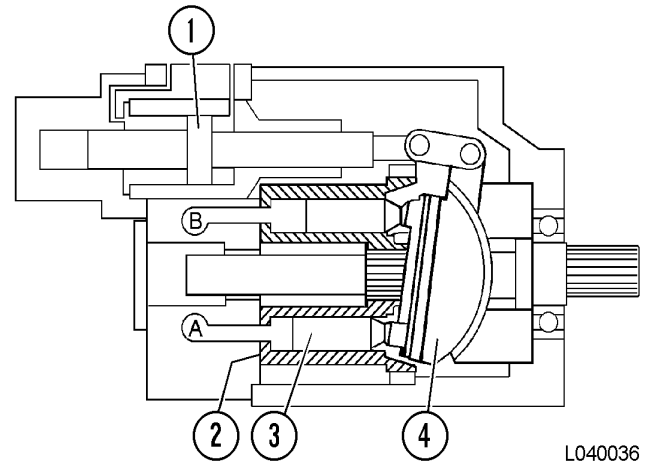

FIGURE 10-15. HALF PUMP VOLUME
The position of control piston (1, Figure 10-15) is near the center of its travel. Swashblock (4) is not angled as steeply as before. Therefore, the pistons have a shorter stroke. As the piston stroke gets shorter, the pump output also decreases.